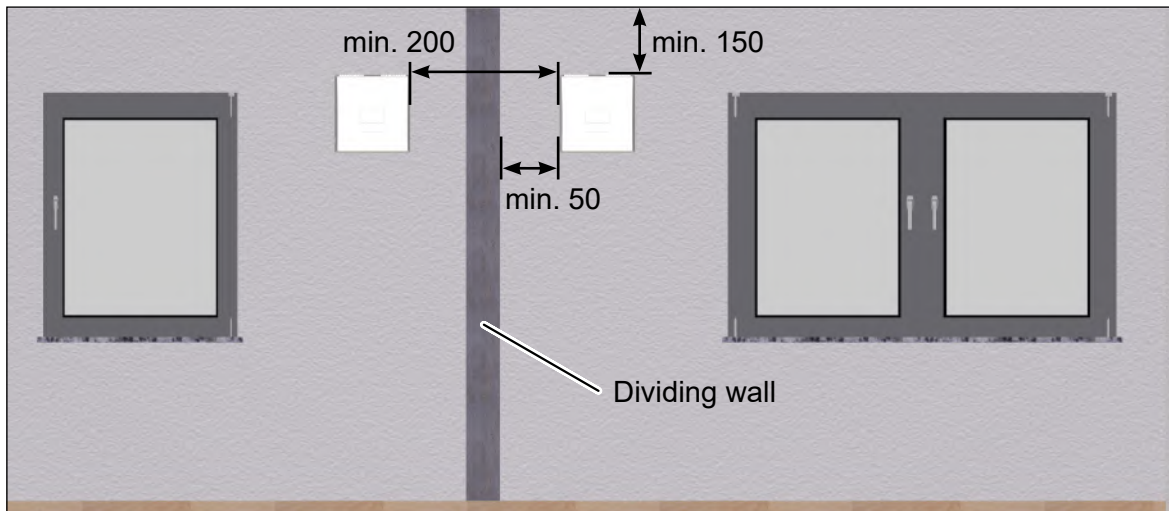

Fig. 8: Lateral minimum distance between two ventilation units, dimensions in millimetres
- ▶ Maintain the following minimum distances (see Fig. 8 on page 13):